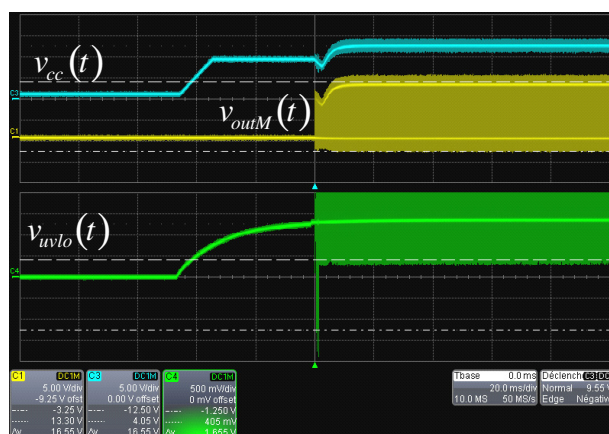

Figure 1. A Typical Power-on Sequence where the UVLO Time Constant Dictates the Moment at which the Part Starts to Pulse
Once all internal flags are cleared, the current source is turned off and the soft-start pin is released. When the soft-start (SS) voltage passes 1.35 V, the main drive output, OUTM, starts to pulse. Please note that OUTA was already pulled high at V_{CC} equals 9.5 V to pre-charge the active clamp P-channel negative bias circuitry. Figure 1 shows a typical power-on sequence in which the UVLO filter delays the switching operations. Please note the DSS mode until the UVLO level gives the green light to pulse. The small leap on the UVLO signal illustrates the hysteresis action.